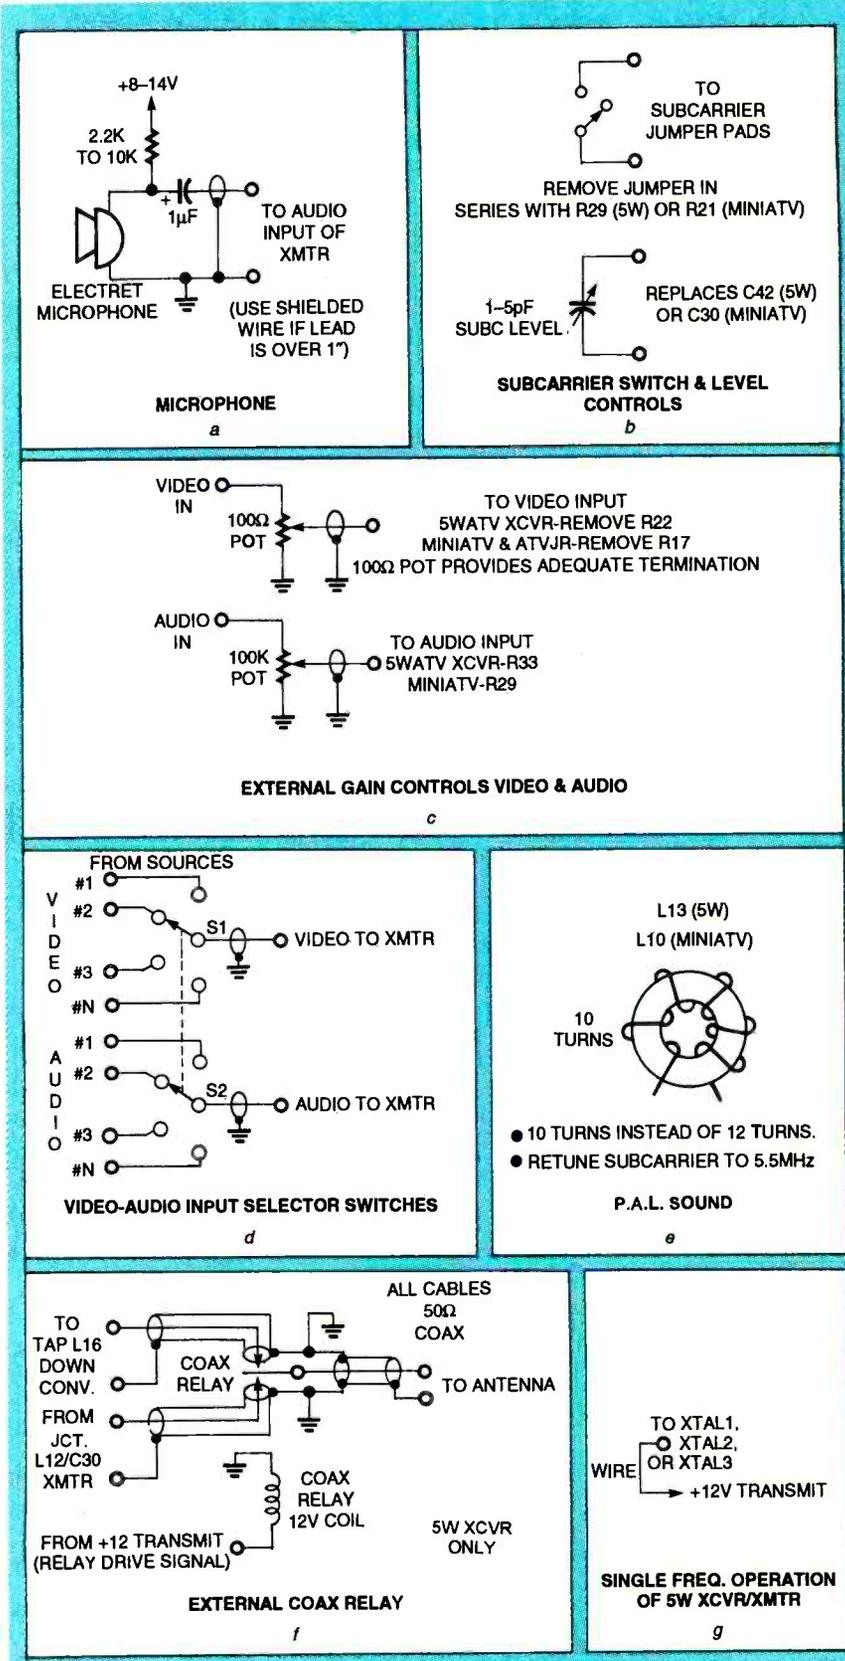

FIG. 14—OPTIONAL ACCESSORIES can be added to the ATV units.
● **Microphone**—If sound transmission is desired, a microphone that provides audio of at least 5 to 10 millivolts RMS into a high-impedance load (5000 ohms) will be satisfactory. Electret microphones are an inexpensive alternative (see Fig. 14-a). Most amateur-radio or citizen band-grade microphones are satisfactory. If a microphone has a built-in push-to-talk switch, the transceiver can usually be controlled by this switch (see Fig. 14-l).
These controls are helpful in transmitter or transceiver applications where several different video and audio sources are used, or whenever gain adjustments need to be easily set. The 82-ohm input terminating resistor (R22 in 5-watt units, R17 in 3/4-watt units) can be replaced by a 100-ohm potentiometer (see Fig. 14-b).
● **Sound subcarrier switch and level adjustment**—A switch in series with the supply line to the audio circuitry can eliminate the 4.5-MHz subcarrier for applications where sound is not required (Fig. 14-c). If this feature is not needed, install a wire jumper on the PC board. The sound subcarrier level can be adjusted by replacing C70 (5-watt units) or C30 with a 1 to 5 picofarad trimmer capacitor (Fig. 14-c). After setting the
• Video/audio input selector—A simple two-pole, multi-position switch can be installed to select one of multiple video/audio inputs (Fig. 14-d). For applications where two inputs are required, a DPDT toggle switch can provide a no-input setup condition.
• Phase-Alternation Line (PAL) sound (5.5 MHz)—The toroidal coil (L13 or L10) can be modified for 5.5-MHz operation. Remove two turns from the coil and adjust the oscillator frequency to 5.5 MHz (see Fig. 14-e). No video modifications are necessary.
• External relay or RF switching—Bypass the internal relay as shown in Fig. 14-f. A voltage from the transceiver can control signals for external relays.
• Single frequency operation—To operate a 5-watt unit on a single frequency, install a jumper as shown in Fig. 14-g.
• Remote downconverter tuning—Potentiometer R50 can be mounted off-board, if desired. Shielded leads will avoid spurious signal pickup (see Fig. 14-h).
• Low battery indicator—A voltage divider can form a low-battery indicator. (See Fig. 14-i.)
• AC-DC video coupling switch—Some applications require AC video coupling because of the presence of DC levels on the video signal. This can be done by switching a coupling capacitor into the video line. (See Fig. 14-j.) The capacitor value should be large enough to avoid excessive low-frequency phase shift and loss. That will lead to "tilt" and trailing streaks around highlights in the video image. A low-frequency cutoff of 10 hertz or less is recommended. For a 75-ohm system, this means a capacitor value of at least 470 microfarads. A clamping diode can be installed across R22 or R17 as shown, to re-establish DC levels to avoid excessive white level clipping.
• RF power and modulation meter—This can be set up for the transceiver with the line-sampler circuit. The meter can be calibrated, or it can provide a relative indication (see Fig. 14-k).  $\Omega$